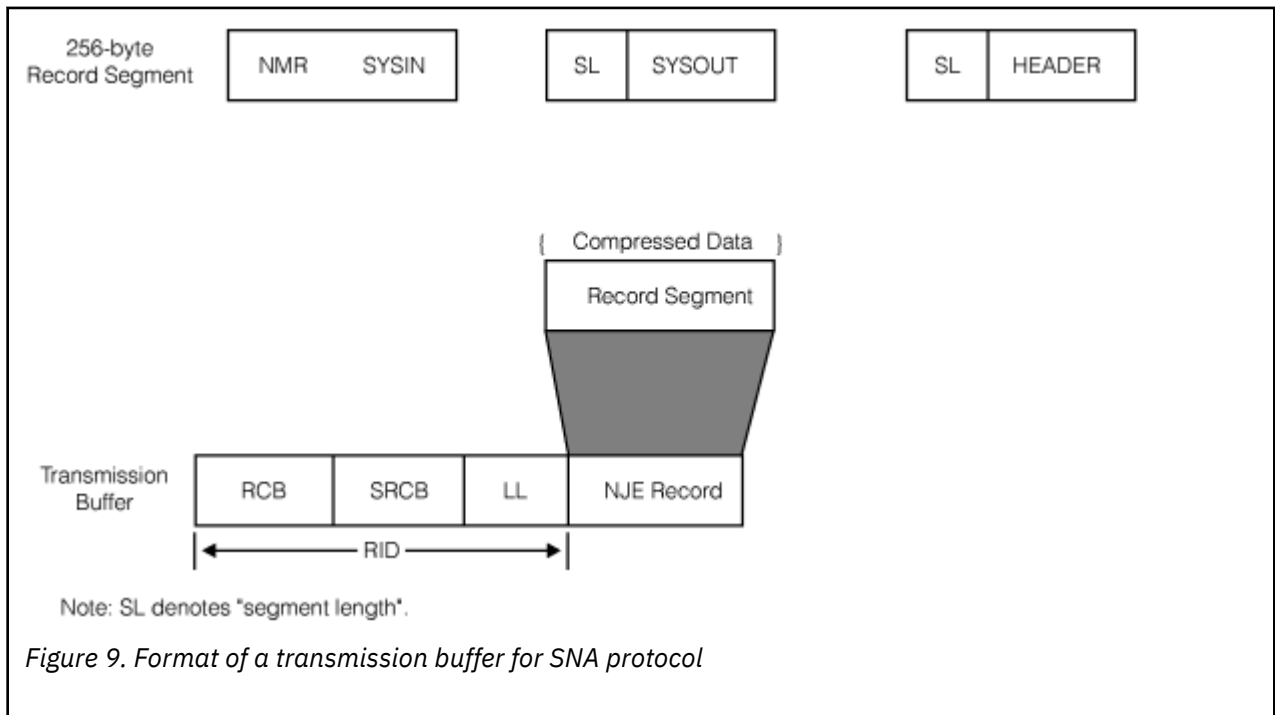

Figure 9. Format of a transmission buffer for SNA protocol
After the data in the NJE record is compressed, including the record identifier (RID), it is placed in the transmission buffer. A transmission buffer for SNA protocols is also called a request unit (RU). There is no control information placed before the first transmission NJE record. Figure 9 on page 9 illustrates the format of a transmission buffer to be transmitted using the SNA protocol.